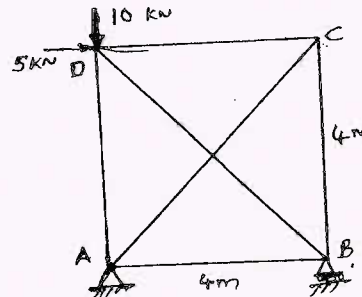

Fig Q8
- 8 Analyse the pin jointed plane shown in Fig Q8 by flexibility matrix method to compute axial forces in the members. Assume $\frac{L}{AE}$ for each member is 0.025mm/kN.